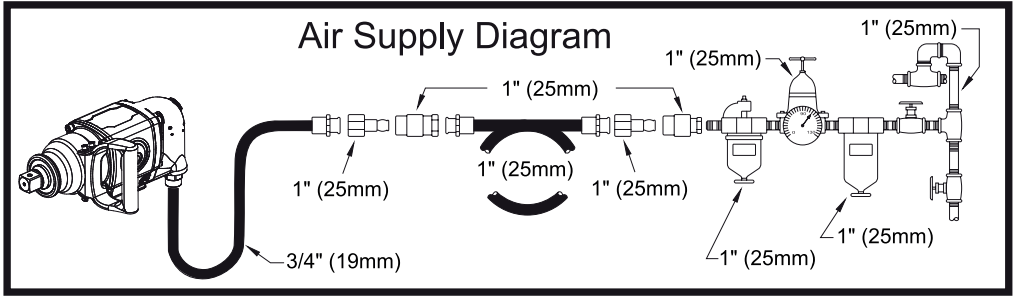

Fig. 1
- Connect device as shown in Fig.1.